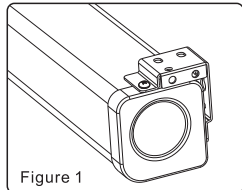

Figure 1
Using a tape measure, measure the distance between the two keyholes on the casing (figure 1) . According to the measurement, use the drill to drill identical holes of the appropriate size on the ceiling (use a smaller drill bit than the actual screws) and ensure that it is level (figure 2 & 3) . Screw in the hook screws (not provided), and lift the screen into the hook screws to hang (figure 4) . To ensure that the screen is level, use a level to check (figure 5).
2. There are two way for wall brackets to fix on the housing. As you can see on the figure 1, which is our normal fixed way (namely factory set). While the other fixed way is to interchange the left and right wall brackets, and then fix onto the housing (namely functional installation way, as figure 2).
Using a tape measure, measure the distance between the two keyholes on the casing (figure 1). According to the measurement, use the drill to drill identical holes of the appropriate size on the wall (use a smaller drill bit than the actual screws) and ensure that it is level (figure 2 & 3). Screw in the appropriate screws, either 5 x 40 by itself for wood walls or with anchors for drywalls, leaving enough space at the end to hang the casing (figure 4). To ensure that the screen is level, use a level to check (figure 5).
Using a tape measure, measure the distance between the two keyholes on the casing (figure 1). According to the measurement, use the drill to drill identical holes of the appropriate size on the ceiling (use a smaller drill bit than the actual screws) and ensure that it is level (figure 2 & 3). Screw in the hook screws (not provided), and lift the screen into the hook screws to hang (figure 4). To ensure that the screen is level, use a level to check (figure 5).